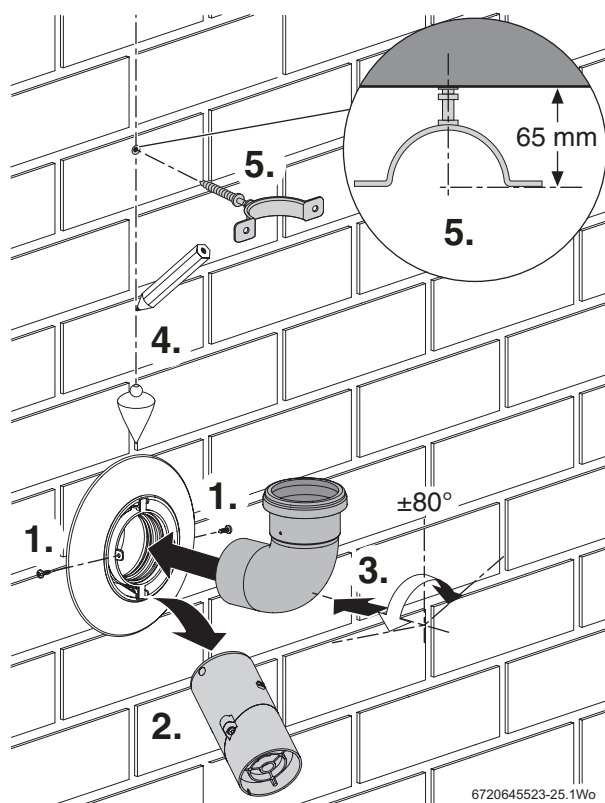

Fig. 43 Terminal bend installation
Refer to figure 43 for terminal bend installation.
4. Screw the clamp into the wall plug to the distance shown in figure 43.
1. Refer to figure 43 , remove and retain the screws securing the terminal end and discard the terminal end.
1. Refer to figure 43 and remove and retain the screws and terminal end.